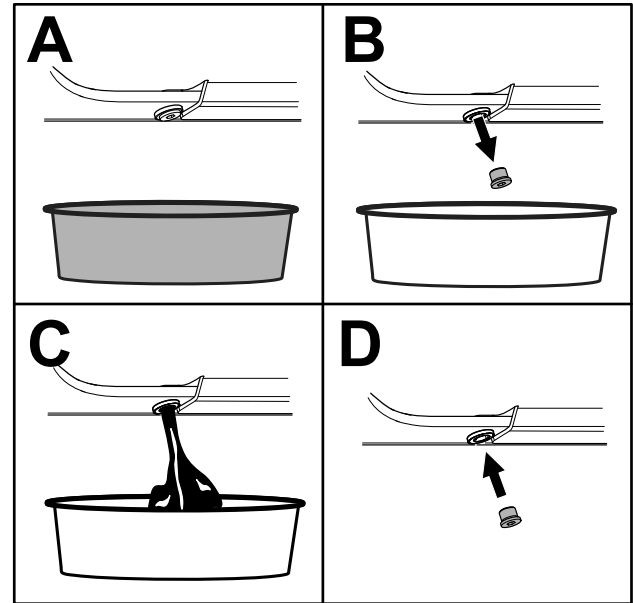

Figure 52
5. Drain the oil beneath the platform (Figure 52).